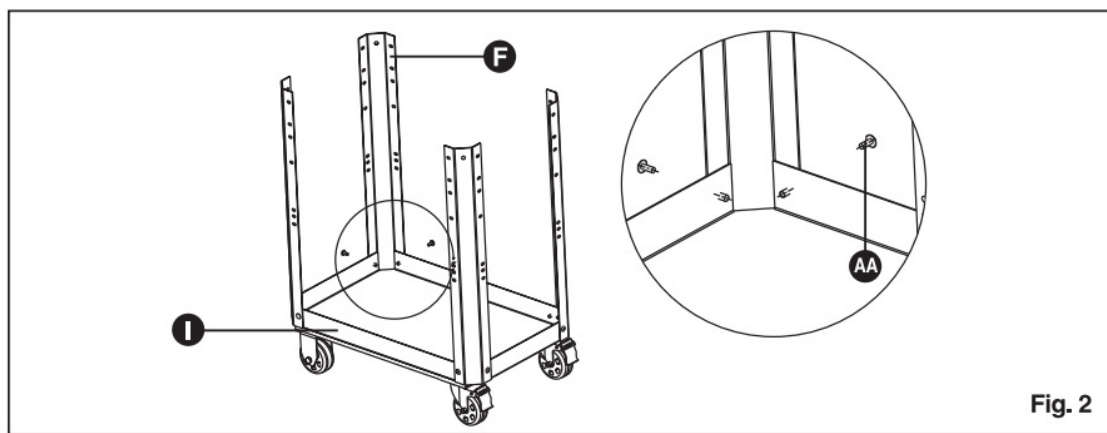

Fig. 2
- Attach the four legs (F) to the outside corners of the bottom tray (I) with eight M6 x 12mm Phillips head bolts (AA) and tighten to desired tightness with Phillips screwdriver PH3 (Fig. 2).